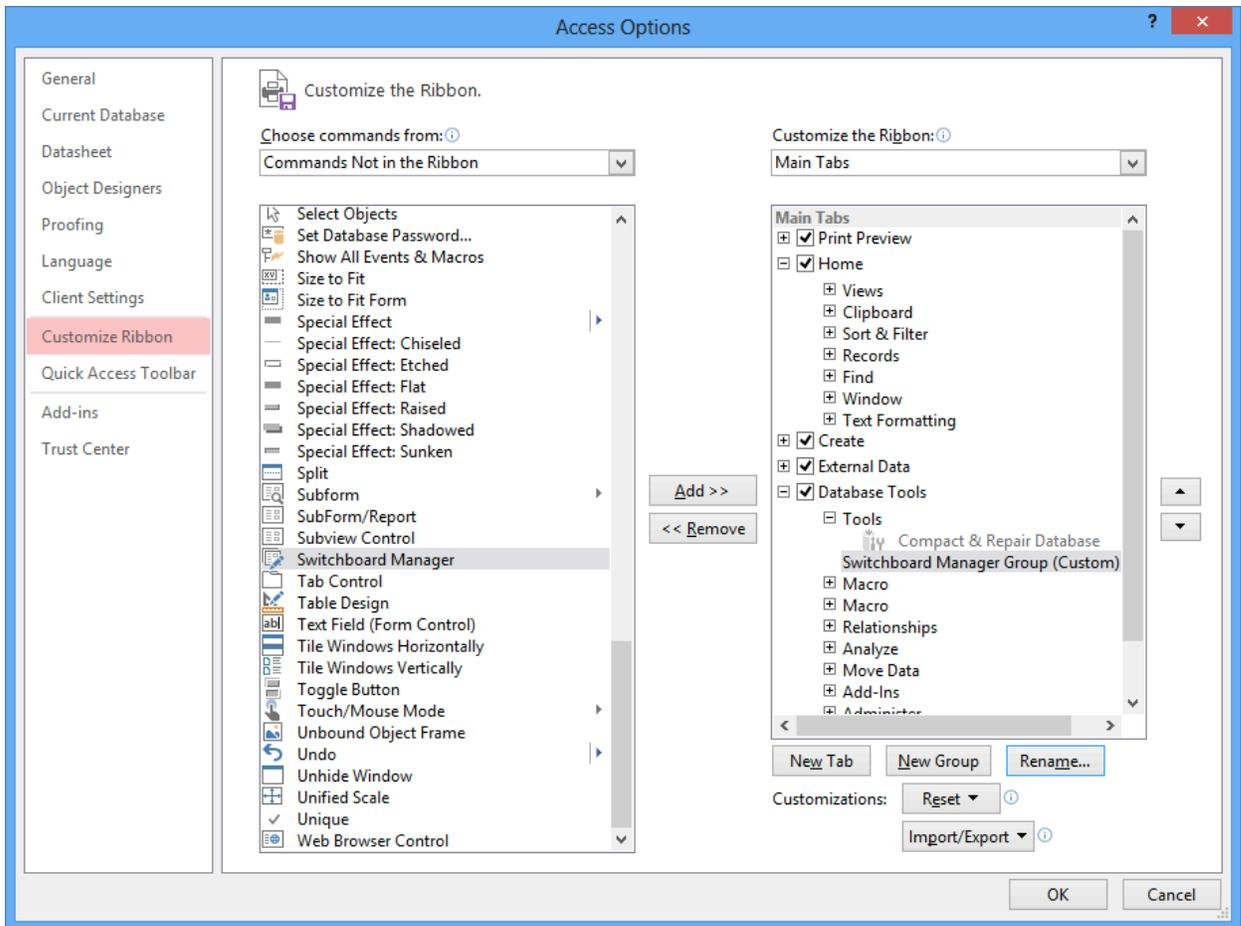
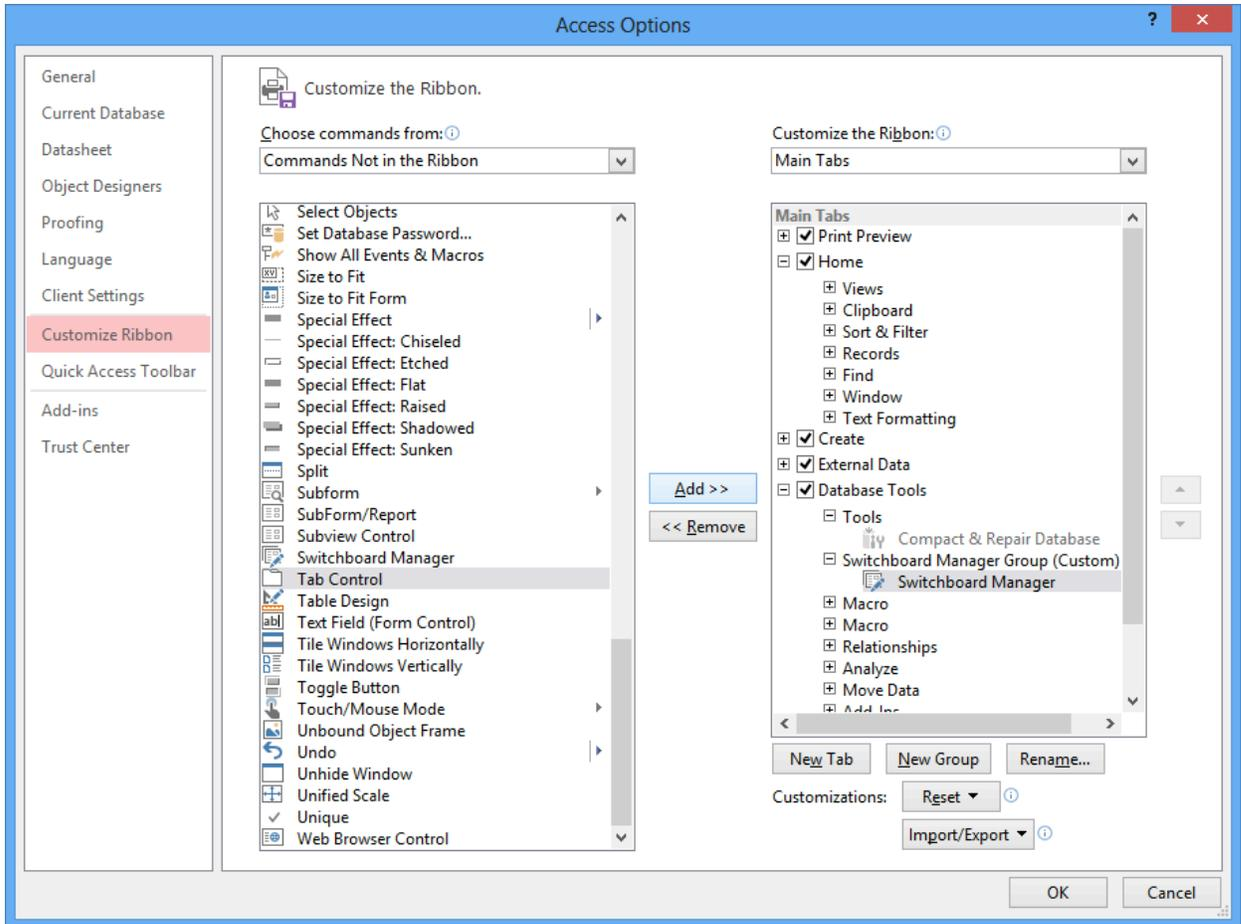

Figure 2: Switchboard Manager Group added to the Database Tools
Figure 3: Switchboard Manager Item added to the Switchboard Manager Group
2. Add the Switchboard Manager to the Database Tools tab: Before you can add the Switchboard item, you need to create a new group in the Ribbon. Select **Tools** under **Database Tools** in the right pane. Then click the **New Group** button. Rename the group as “Switchboard Manager Group” using the **Rename** button. The new group appears as in Figure 2. Select the Switchboard item in the left pane and click the **Add >>** button to place it in the Database Tools tab as shown in Figure 3. Click the **OK** button to close the Access Options window.